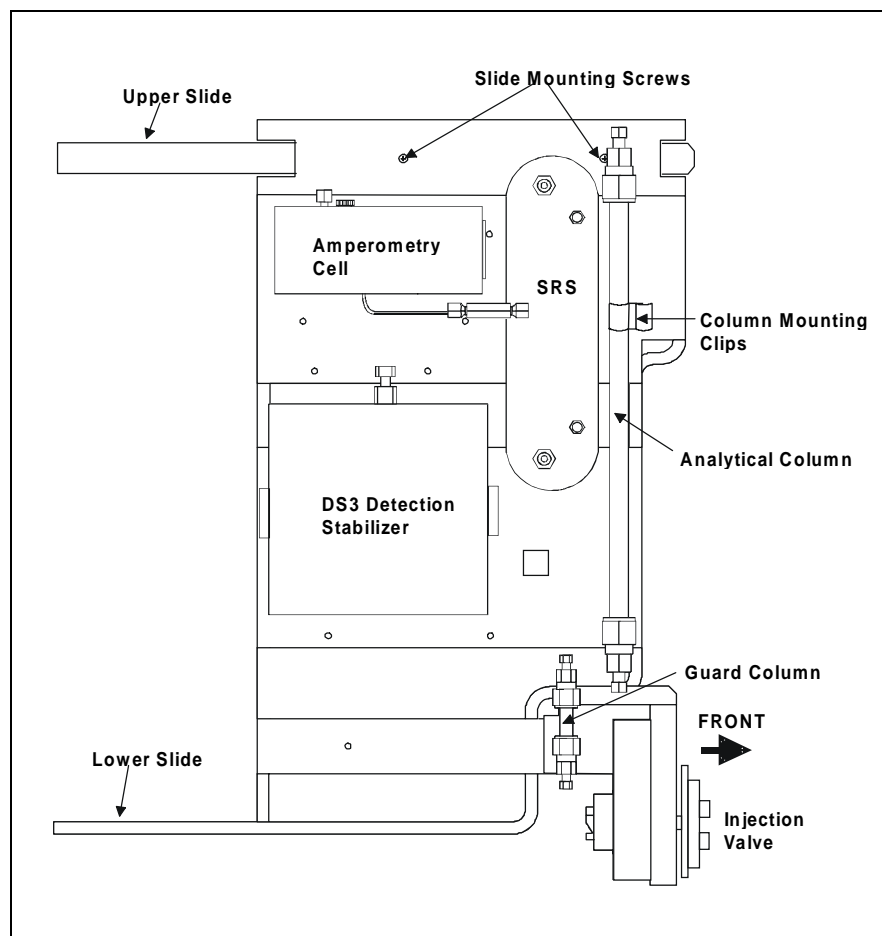

Figure B-6. Typical DS3 Installation in LC20 or LC30
6. Route the cable through the upper chase of the pump and the CD20, and then plug the free end of the cable into TTL3 IN on the CD20 (see Figure B-6).